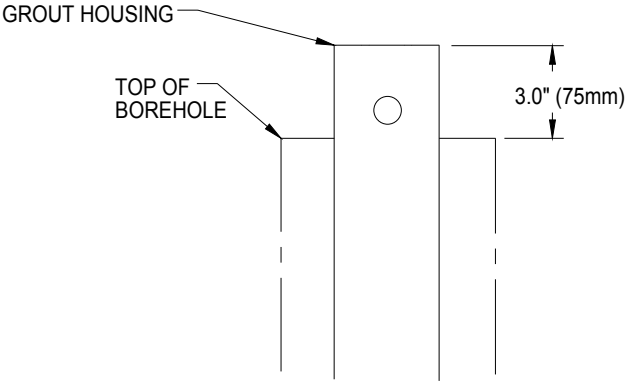

Figure 3: Grout Housing Installation
4. Insert the Grout Collar into the borehole (the top of the Grout collar should be a minimum of 3"[75mm] above the top of the bore hole see Figure 3) and wedge into place with rags soaked in grout. Install Grout Line Access and Safety Line Access Tubes in the annulus between the Grout Collar and the Borehole.